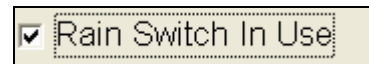

Figure 16.4.18C
2. If you are using a Rain Switch check the **Rain Switch In Use** box (Figure 16.4.18C).